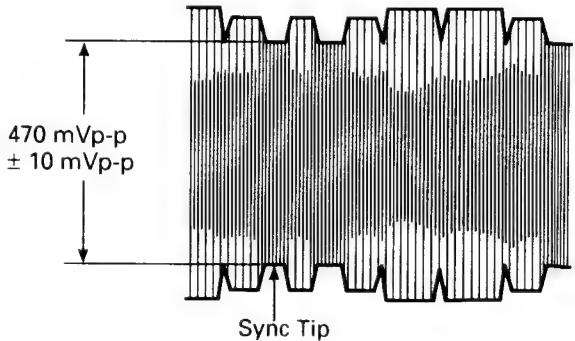

Fig. 2.2.12
2. Adjust VR182 (REC-Y) so that the minimum video luminance signal level is $470 \text{ mVp-p} \pm 10 \text{ mVp-p}$. (Refer to Fig. 2.2.12)
2. Adjust VR182 (REC-Y) so that the video luminance signal level at the sync tip is $470 \text{ mVp-p} \pm 10 \text{ mVp-p}$. (Refer to Fig. 2.2.12)